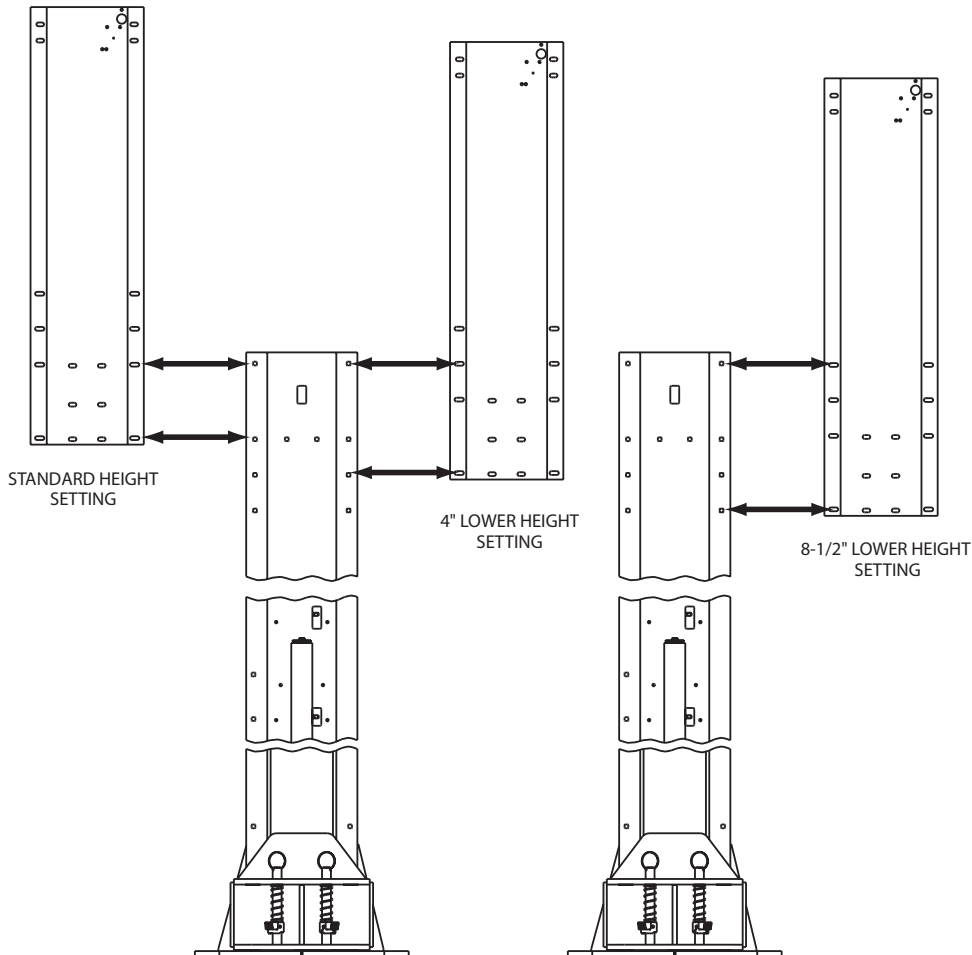
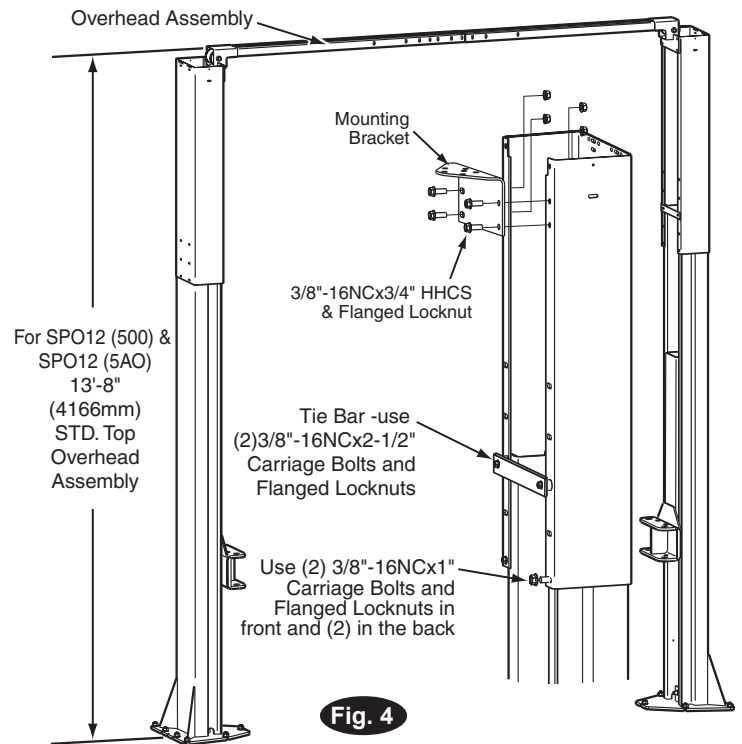

Fig. 1b
Fig. 4
3. Column Extensions: While column is on the ground, install column extensions using (4) 3/8"-16NC x 1" lg. Carriage Bolt and Flanged Locknut, Fig. 4 & Fig. 1b. Use (2) 3/8"-16NC x 2-1/2" lg. Carriage Bolt and Flanged Locknut to attach the tie bar and the column extension together at the column's uppermost holes, Fig. 4. The tie bar is positioned on the outside of the column extension. Adjust the column extensions plumb.
IMPORTANT: All star washers are to be mounted on the right side column to ensure grounding of overhead limit switch. Star washers are not needed when mounting to left side column. Notice the column extension mounting, Fig. 4 and overhead limit switch mounting as well in Fig. 4 & Fig. 6.